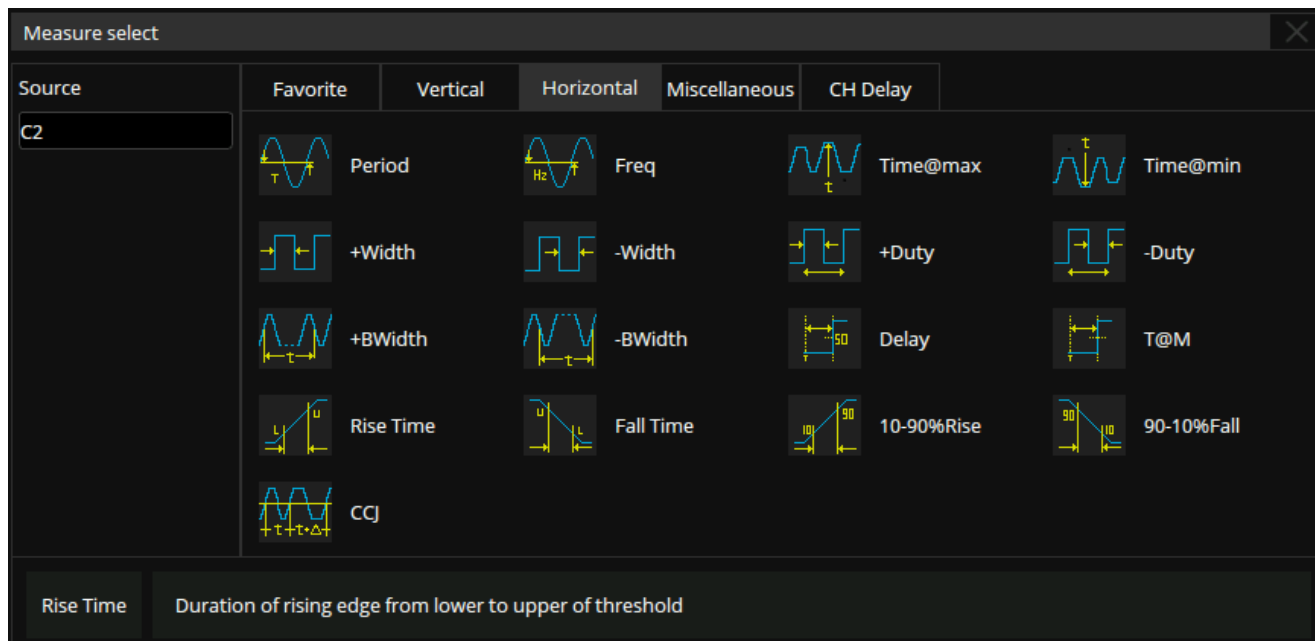

Figure 12.5 Measure Select
- The **Measure Select** window will be displayed. See figure 12.5